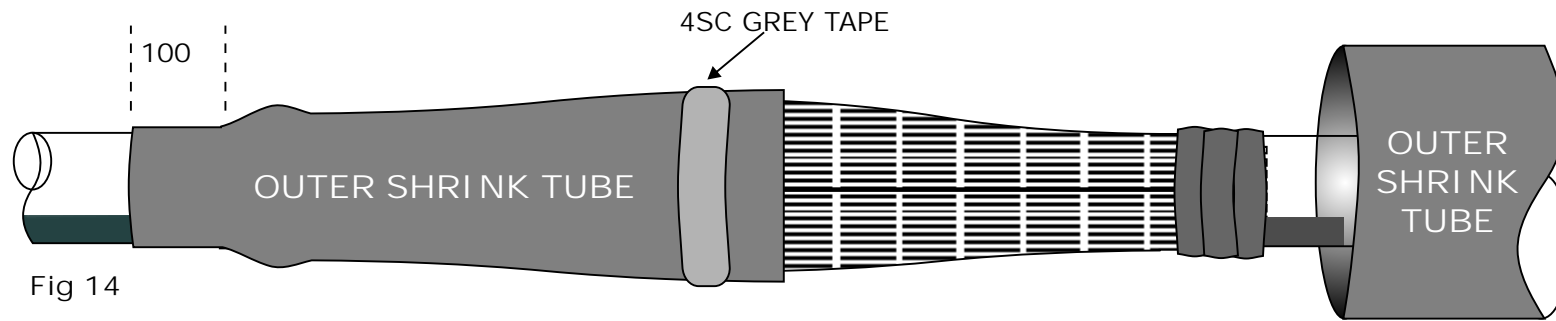

Fig 14
20. Make a mark at 100mm on the Outer Cable Sheath on the Long side of the Joint and position one of the Shrink Tubes to this point. With a suitable heat source, start shrinking from the centre of the Tube to one end at a time. Keep the flame on the move to ensure an even wall thickness. Apply a turn of 4SC Grey Tape approx 75mm in from the end of the Tube as in Fig 14.